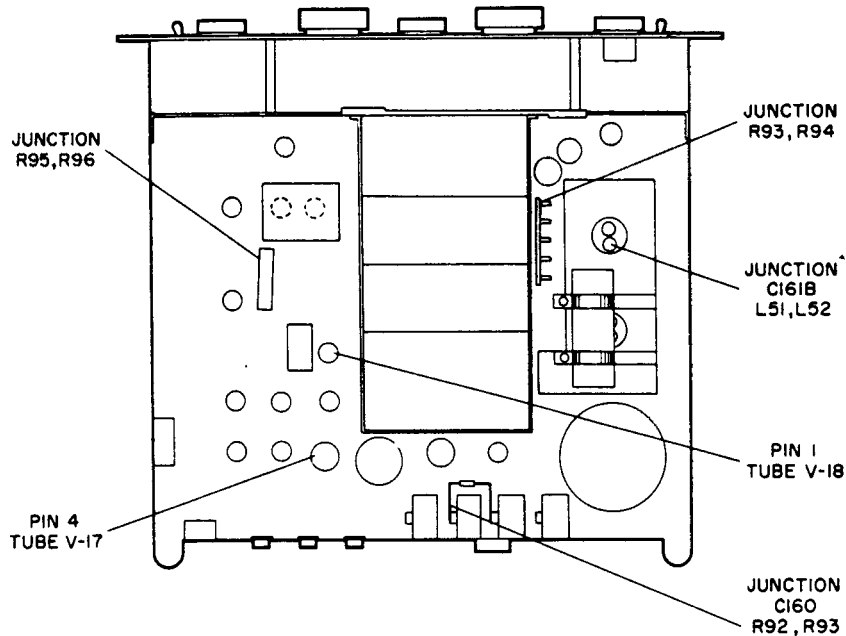

Figure 1-3. Radio Receivers SP-600-JX-21 and SP-600-JX-17, Bottom View
- (4) Disconnect the antenna cable from the antenna input connector.
- (5) Remove the eight screws holding the radio receiver in the relay rack and remove the receiver from the rack.
- (6) Loosen the four thumb screws holding the top cover to the radio receiver and remove the cover.
- (7) Set the radio receiver on its side. Remove the seven machine screws holding the bottom plate to the radio receiver and remove the plate.
- (8) Insert the power line plug of the radio receiver into the 115-volt, 60-cycle power source.
- (9) Connect the 600-ohm, 2-watt resistor between the AUDIO OUTPUT terminals on the rear of the radio receiver.
- (10) Set the FUNCTION switch on Multimeter AN/PSM-6 to the DCV-20K Ω /V position.
- (11) Set the RANGE switch on Multimeter AN/PSM-6 to the Ω x 10000/500 position.
- (12) Insert the red test lead into the red jack of the multimeter and the black test lead into the black jack of the multimeter.
- (13) Slip a red alligator clip over the red test prod point and a black alligator clip over the black test prod point.
- (14) Connect the black test lead to the receiver chassis and the red test lead to the junction of L-51, L-52, and C-161B (figure 1-3).
- (2) Rotate the RF GAIN control counterclockwise to 0. The indication on the multimeter should be between 295 and 315 volts.
- (3) Rotate the RF GAIN control on the radio receiver counterclockwise to the OFF position.
- (4) Set the RANGE switch on the multimeter to the $\Omega \times 1000/250$ position.
- (5) Remove the red test lead from the junction of L-51, L-52, and C-161B and connect it to pin 4 of tube V-17 (figure 1-3).
- (6) Rotate the RF GAIN control on the radio receiver clockwise from the OFF position to 10. The indication on the multimeter should be between 220 and 235 volts.
- (7) Set the RANGE switch on the multimeter to the $\Omega \times 10000/500$ position.
- (8) Rotate the RF GAIN control on the radio receiver counterclockwise to 0. The indication on the multimeter should be between 255 and 275 volts.
- (9) Rotate the RF GAIN control on the radio receiver counterclockwise to the OFF position.
- (10) Set the RANGE switch on the multimeter to the $\Omega \times 1000/250$ position.
- (11) Remove the red test lead from pin 4 of tube V-17 and connect it to pin 1 of tube V-18 (figure 1-3).
- (12) Rotate the RF GAIN control on the radio receiver clockwise from the OFF position to 0. The indication on the multimeter should be between 145 and 155 volts.
- (13) Rotate the RF GAIN control on the radio receiver counterclockwise to the OFF position.
- (14) Remove the red test lead from pin 1 of tube V-18 and connect it to the radio receiver chassis (ground). Remove the black test lead from the radio receiver chassis (ground) and connect it to the junction of C-160, R-92, and R-93 (figure 1-3).
- (15) Rotate the RF GAIN control on the radio receiver clockwise from the OFF position to 0. The indication on the multimeter should be between 50 and 53 volts.
- (16) Rotate the RF GAIN control on the radio receiver counterclockwise to the OFF position.
- (17) Set the RANGE switch on the multimeter to the $\Omega \times 100/50$ position.
- (18) Remove the black test lead from the junction of C-160, R-92, and R-93 and connect it to the junction of R-95 and R-96 (figure 1-3).
- (19) Rotate the RF GAIN control on the radio receiver clockwise from the OFF position to 0. The indication on the multimeter should be between 9.5 and 10.5 volts.
- (20) Rotate the RF GAIN control on the radio receiver counterclockwise to the OFF position.